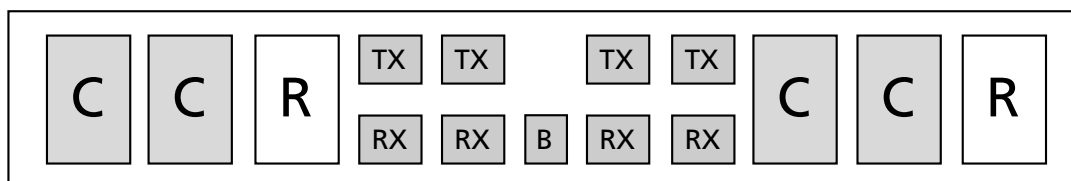

Figure 1-4 • AX SuperCluster
Two C-cells, a single R-cell, two Transmit (TX), and two Receive (RX) routing buffers form a Cluster, while two Clusters comprise a SuperCluster (Figure 1-4). Each SuperCluster also contains an independent Buffer (B) module, which supports buffer insertion on high-fanout nets by the place-and-route tool, minimizing system delays while improving logic utilization.